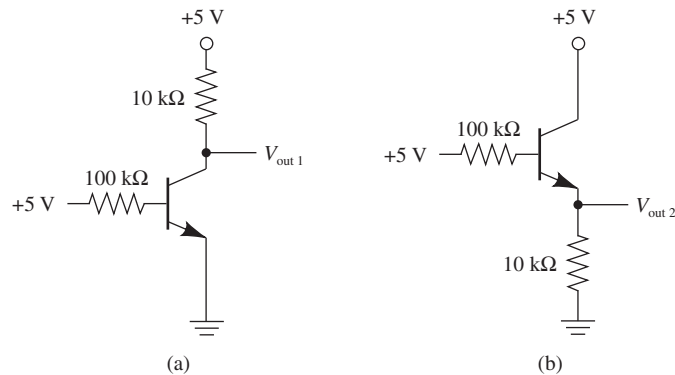

Figure P10
10. Find V_{out1} and V_{out2} for the circuits of Figure P10.